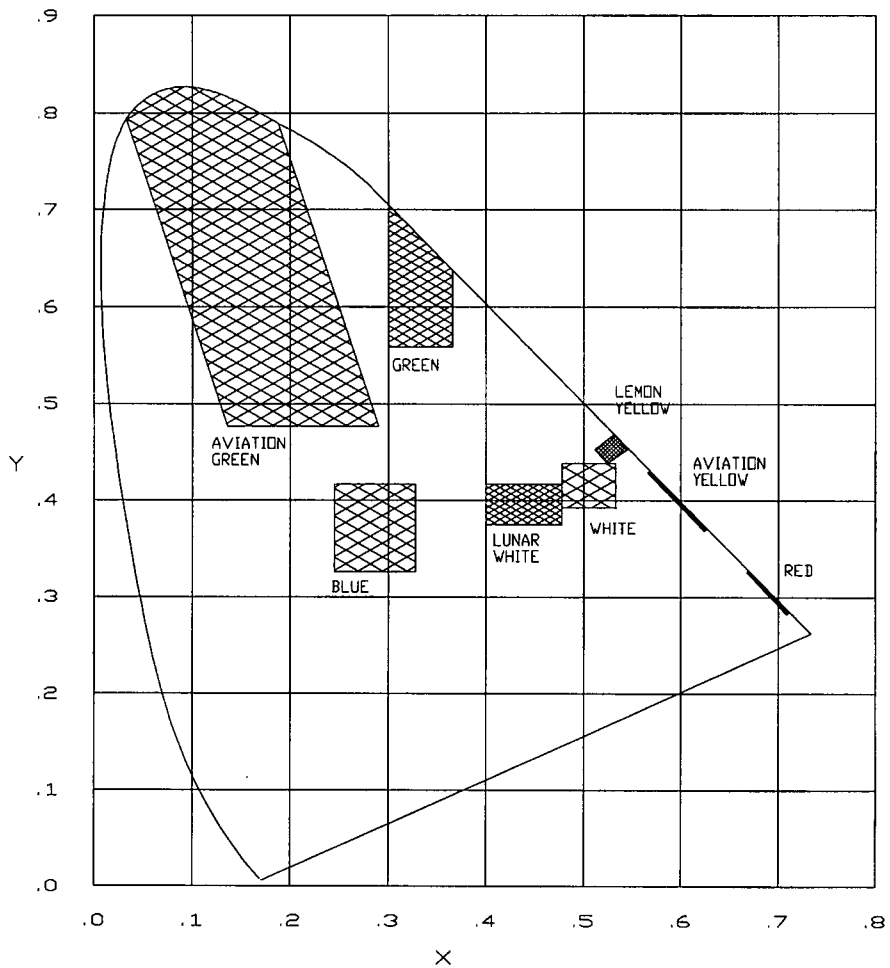

Figure 43 Incandescent Colors-CIE 1931 Chromaticity Diagram
- "Color, Series 90 Code" specifies colors. Also see Table O for tabulation of Illuminated Color Limits, CIE Charts of Figures 43 and 46, and Section 5 Table 8 for Cell Color coding.
Figure 43 shows the standard colors for incandescent versions of the Series 90 plotted on the CIE 1931 Chromaticity Diagram.